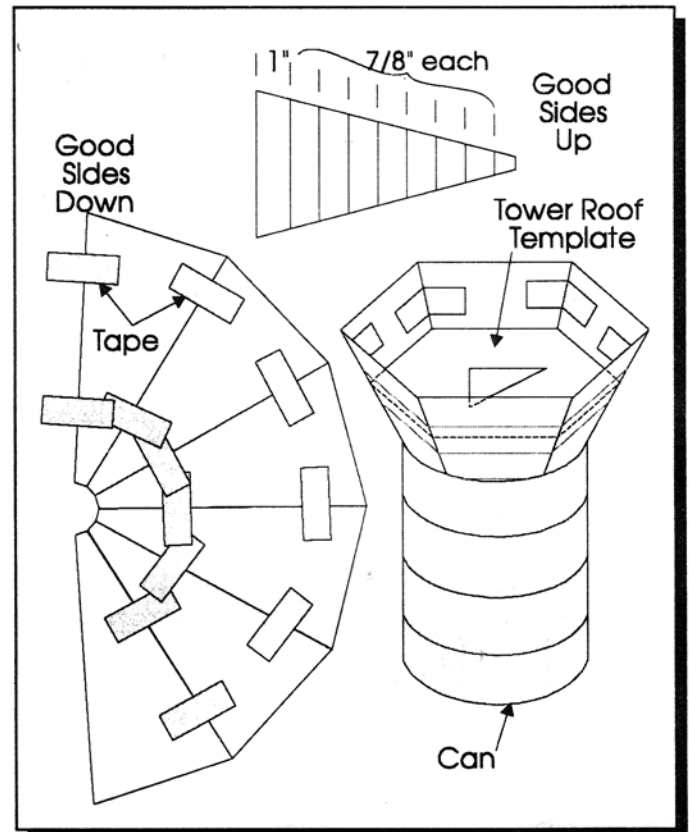

Figure 30
16. Lay Tower Roof triangles good side down. Tape and glue together. Invert into a coffee can or other cylinder. Insert and glue the Tower Roof Template into the inverted Tower Roof. See Figure 30.